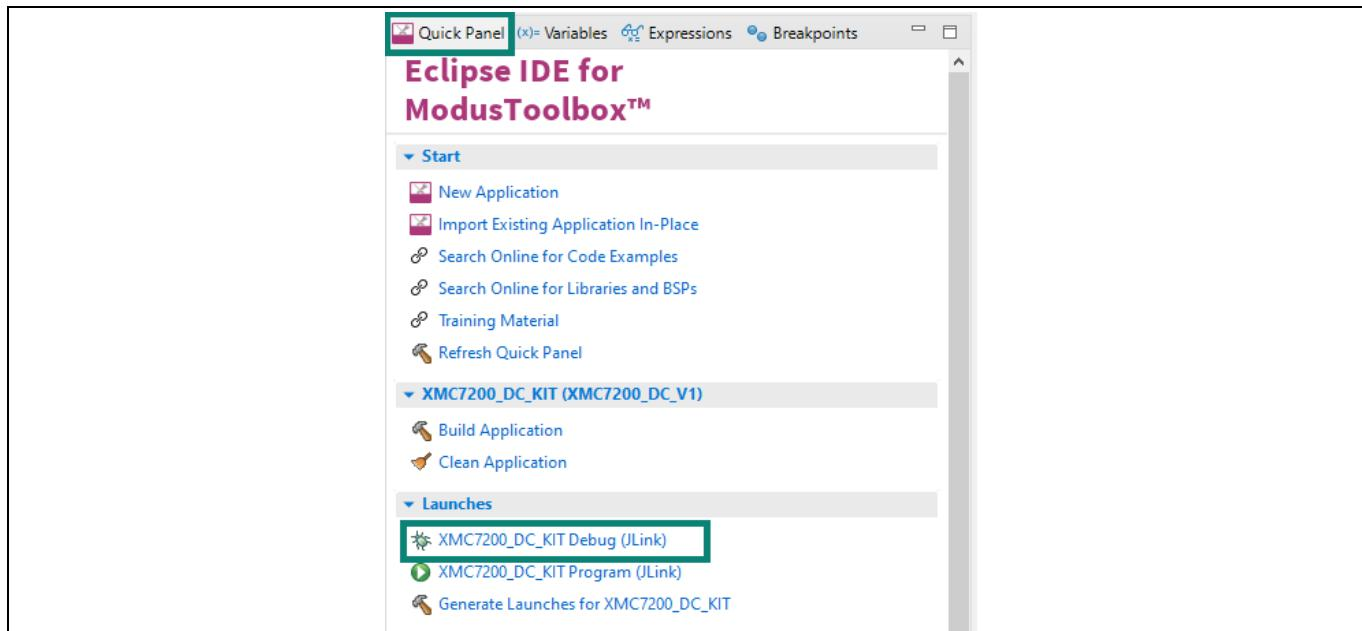

Figure 13 Debugging in the ModusToolbox™ software
- The ModusToolbox™ software has an integrated debugger. To debug a XMC7200D application, in the Project Explorer, select <App_Name> project. In the Quick Panel, scroll to the **Launches** section and click the **<App_Name> Debug (JLink)** configuration as shown in Figure 13. For more details, see the “Program and debug” section in the Eclipse IDE for ModusToolbox™ user guide.